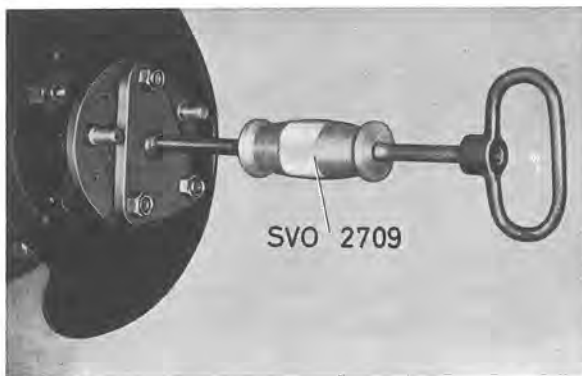

Fig. 4-133. Removing drive shaft
3. Slacken the bolts for the thrust washer. These are slackened through the holes in the drive shaft flange. Pull out the drive shaft with puller SVO 2709, see Fig. 4-133.
2. Release the bolts for the brake backing plates and brake shoe retainers. They are slackened through the holes in the drive shaft flanges. Pull out the drive shafts with puller SVO 2709, see Fig. 4-133.